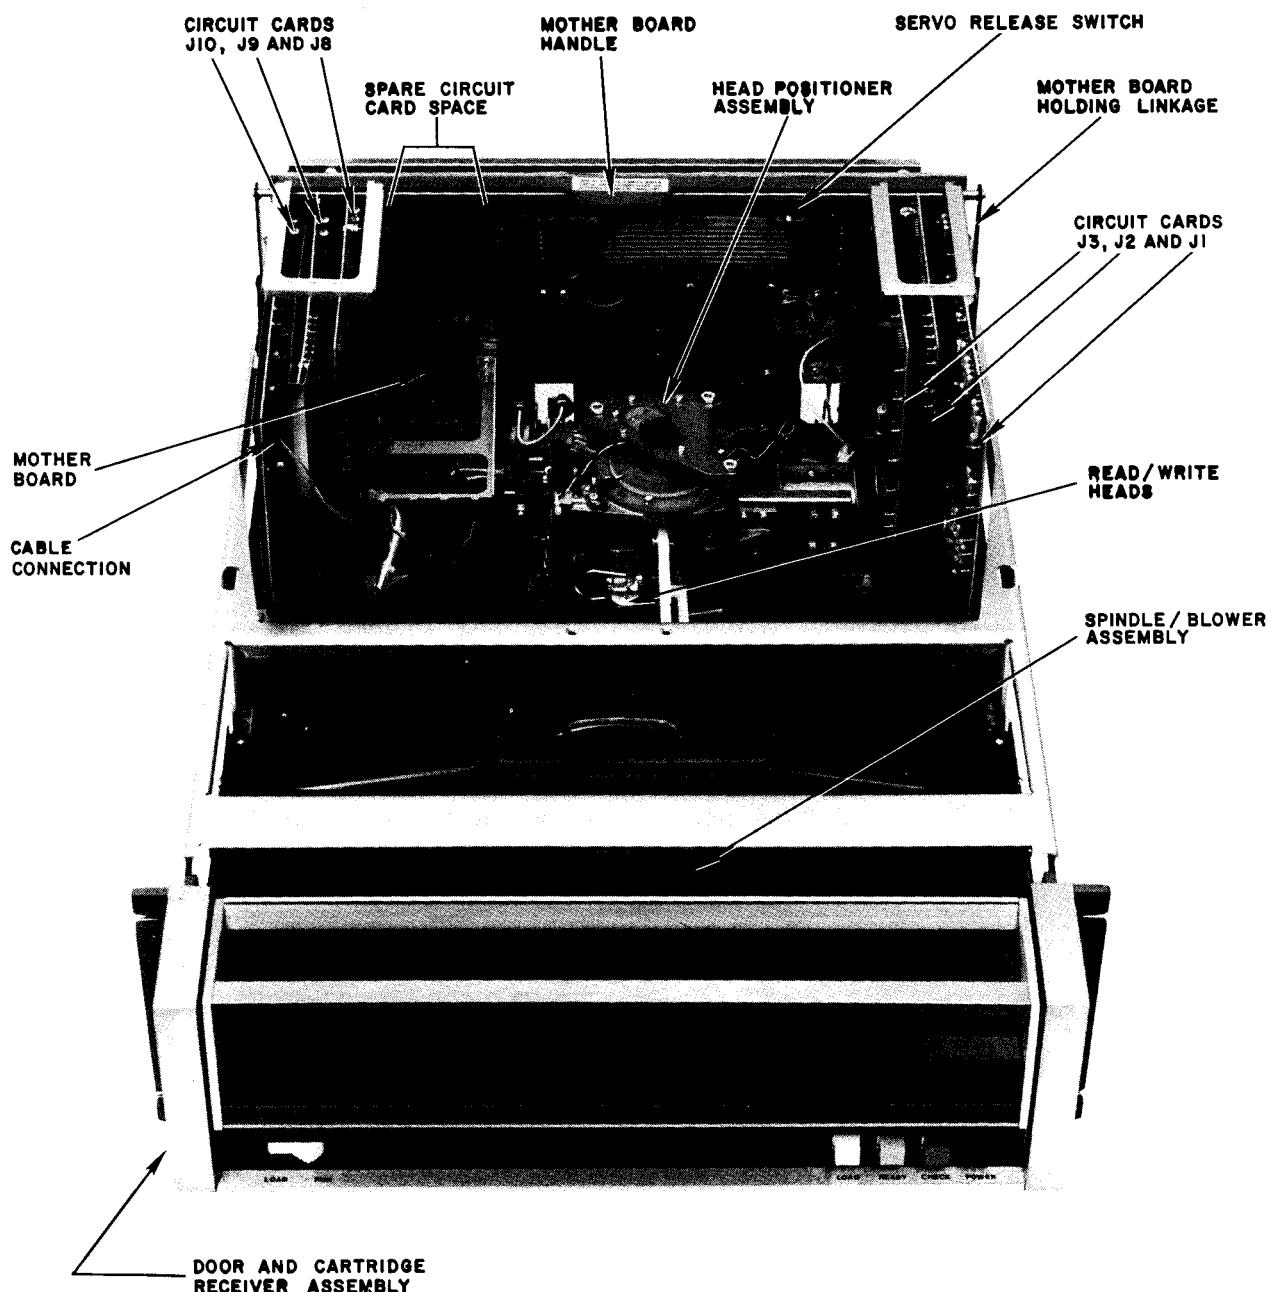

Figure 5-5 INTERNAL COMPONENTS
[CAUTION] Carefully study Figure 5-5. The several PCB's MUST be inserted ONLY in their proper connector, and MUST always be properly oriented with their component side facing toward the centerline of the machine. Failure to observe this precaution will result in damage to the circuit boards, and will void the warranty.
2. With power applied and the Servo Release Switch (see Figure 5-5) depressed, manually move the rotary member of the Position Transducer back and forth.